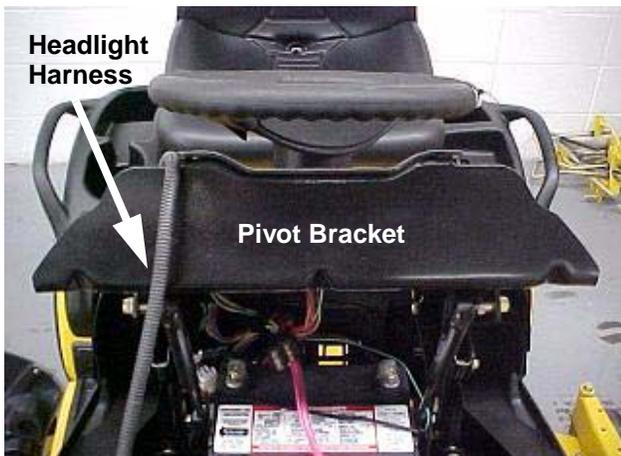

FIGURE 7
6. Make sure headlight wire harness is properly routed over the top of the Pivot Bracket (See Figure 7) before installing & securing the hood. **NOTE:** Make sure headlight harness is not pinched between hood & hood pivot bracket.